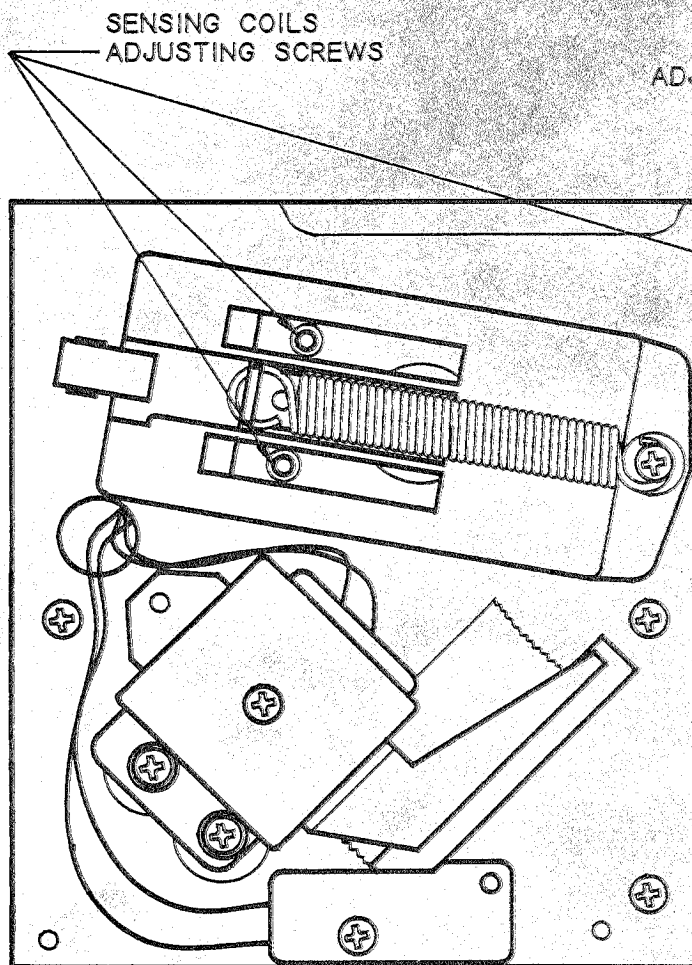
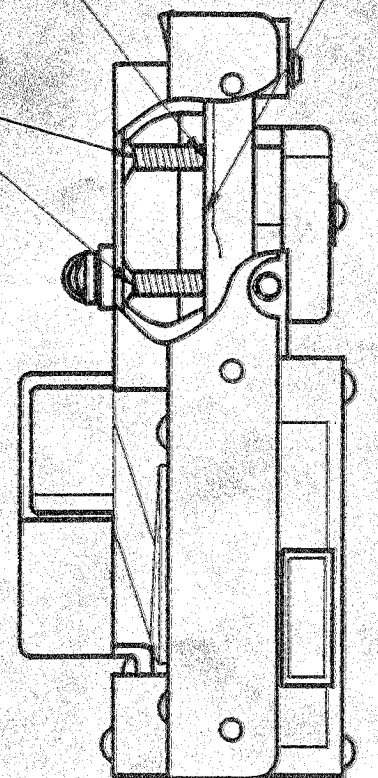

FIG. 4
FIG. 4A
- 1D. TURN TOP ADJUSTING SCREW (SEE FIG. 4) CLOCKWISE UNTIL SCREW BOTTOMS AGAINST CENTER COIL (SEE FIG. 4A). WHILE TURNING SCREW WATCH THE METER NEEDLE, WHEN IT BEGINS TO DEFLECT STOP THEN BOTTOM THE OTHER SCREW IN THE SAME WAY.